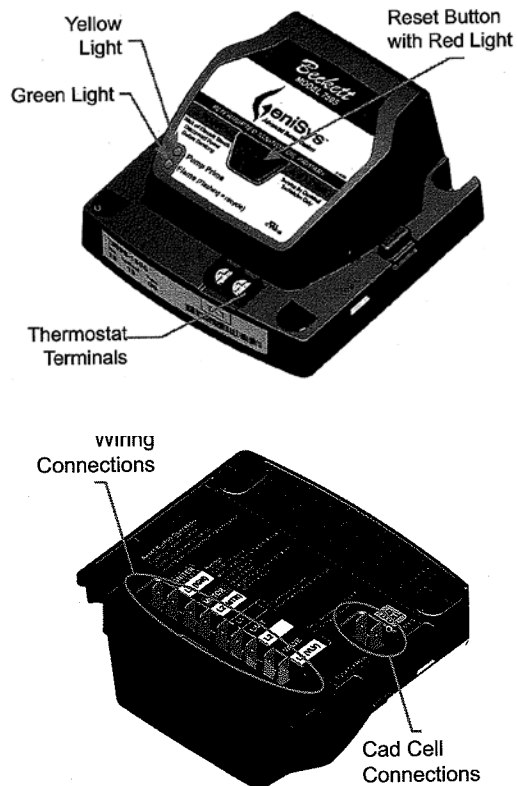

Figure 29: GeniSys 7505 Oil Primary Terminals, LED's and Reset Button
- a. **GeniSys 7505 Control Features**, see Figure 29.
- At burner start up, click the reset button while the igniter is still on. This will transition the control to a dedicated Pump Prime mode, during which the motor, igniter, and valve are powered for four (4) minutes. The yellow light will be on.